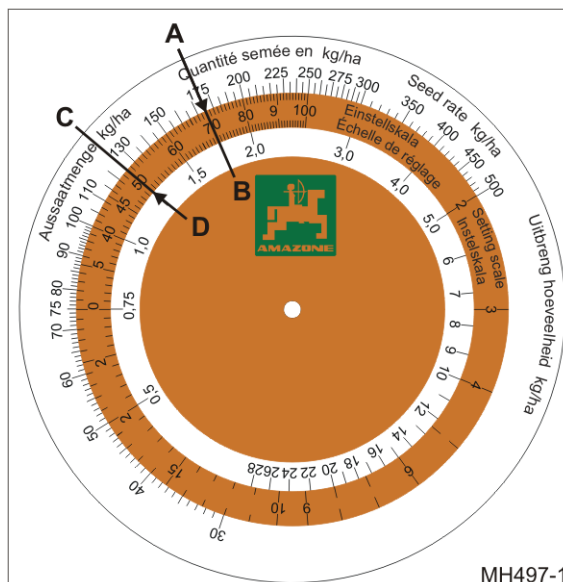

Fig. 158
- o Calculated application rate 175 kg/ha (Fig. 158/A)
- o Gearbox setting 70 (Fig. 158/B)
2. Read the gearbox setting for the desired spread rate of 125 kg/ha (Fig. 158/C) from the calculator disc.
- Gearbox setting 50 (Fig. 158/D).